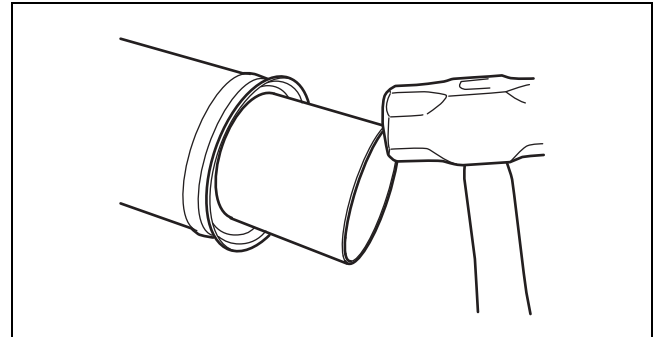

Figure 9.16
2. If necessary, install a new deflector on the coupling shaft. To avoid damaging the deflector, use a section of tubing and a brass hammer to seat the deflector. Verify that the deflector is completely seated against the center bearing support shoulder. Figure 9.16.